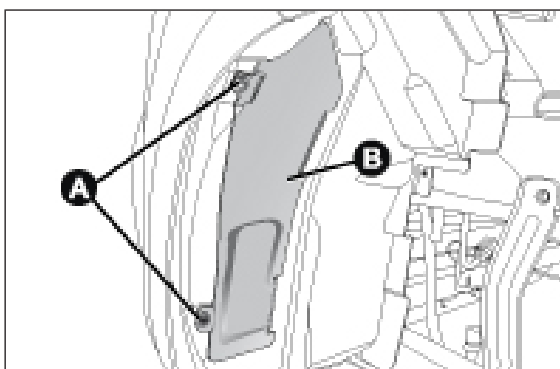

fig. 118
- ☐ adjust the screws A fig. 118 and remove the flap B;